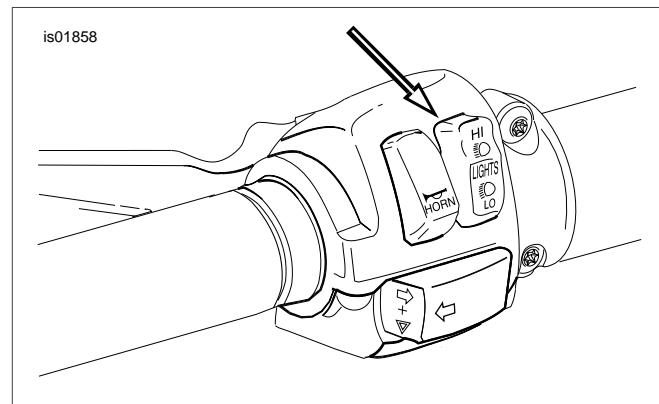

Figure 13. High Beam Setting
- See Figure 13. Set handlebar headlamp switch to high beam position.